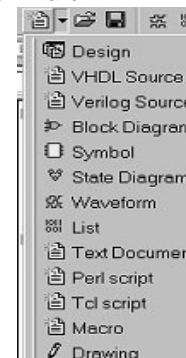

Figure 4. New Button Drop-down display
5. Click on the drop-down arrow of the '**New**' button and choose '**Block Diagram**' as shown in Figure 4, by the arrow. This will create a new block diagram editor without going through the wizard.